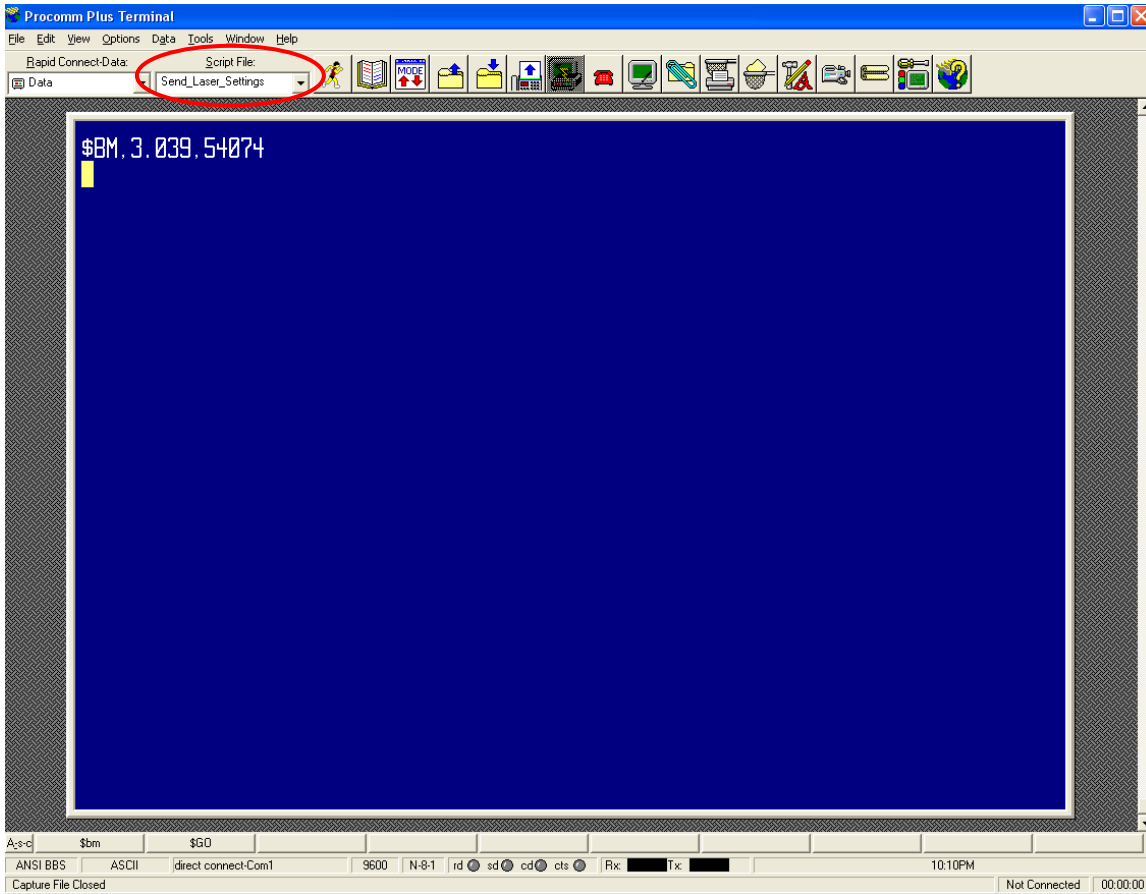

Figure 30
3. Using the mouse, select the Send_Laser_Settings script from the **Script File** drop-down menu as shown in fig. 30.